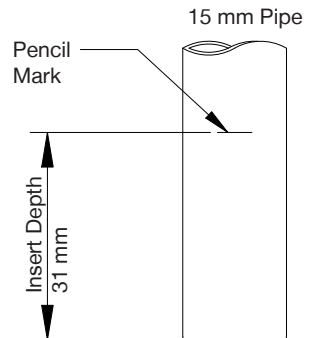

Fig. 9
Ensure the pipe is free from all score marks and deformities in the area of the insertion depth (Fig. 9) and cut the pipe square removing all burrs and sharp edges to prevent damage to the sealing 'O'-ring.
2. Prior to inserting pipe into fitting mark the insertion depth on the wall of the pipe with a soft pencil at a distance of 31 mm from the end to be inserted (Fig. 9).